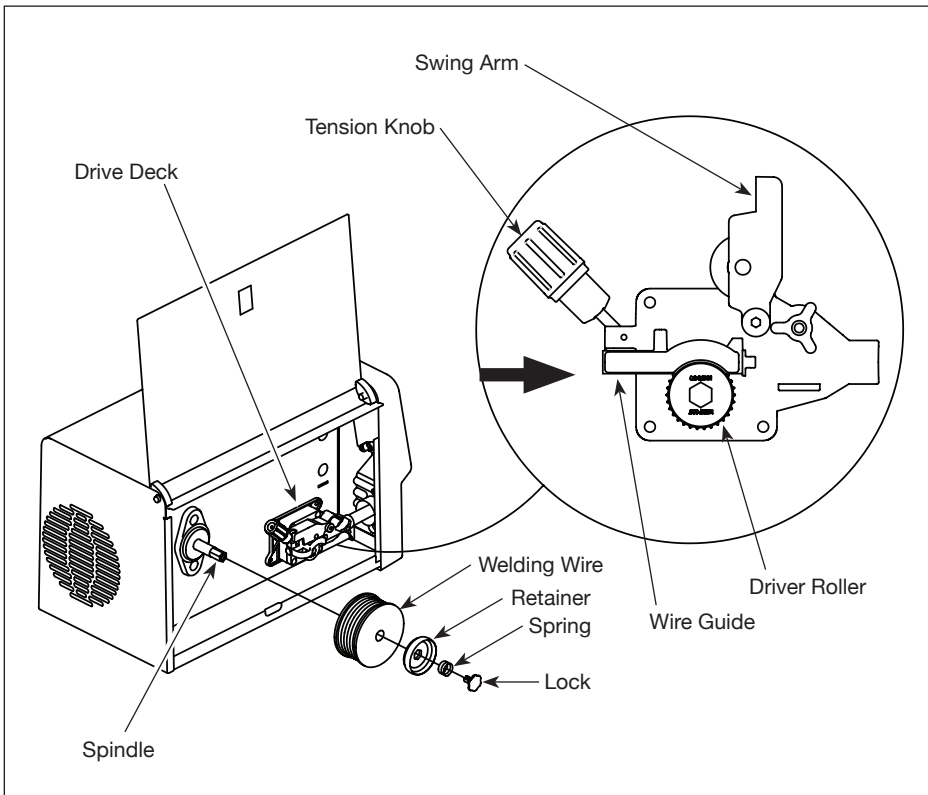

Figure 4 - Weld Wire Installation
- a. Diameter of welding wire matches groove in drive roller on wire feed mechanism (See Figure 4).